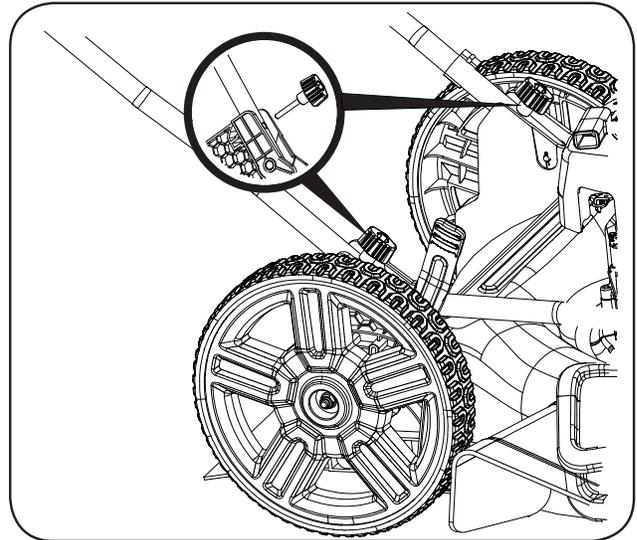

Figure 3
2. Screw two handle fixing knobs for mounting the lower handle on the mower handle holder (Figure 3).